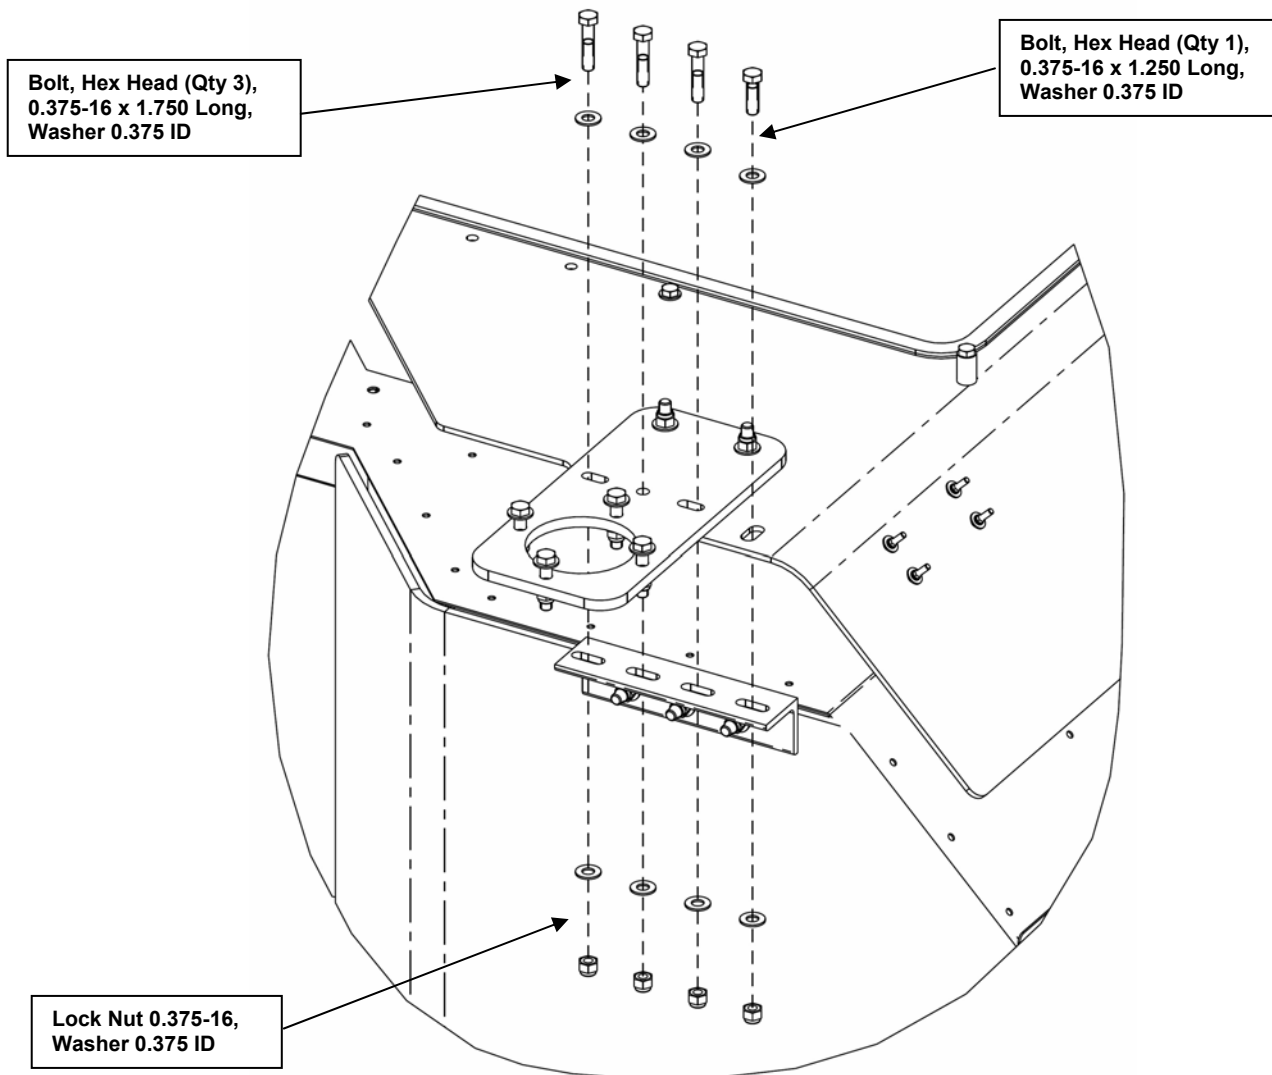

Figure 43. Installing the Antenna Mount, Right Side.
- i) Attach the Right Rear Left Panel to the Armored Roof Panel using the hardware shown in Figure 43. Do not fully tighten the bolts at this time. Tighten the bolts such that the top of the top surface of the angled bracket is 0.00 to 0.60 in. from the bottom surface of the Roof Panel.